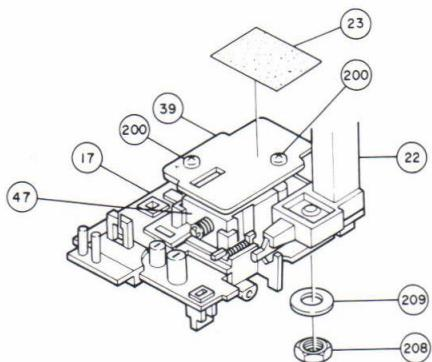

Fig. 7
(D) Removal of Tonearm (22) (Figure 7)
1. Remove the Sheet (23) on the Sensor PWB Ass'y (39) secured to the Bracket Ass'y (17).
2. Use a soldering iron to detach the lead wire coming from the Tonearm (22).
3. Remove the two Screws (200) securing the Sensor PWB Ass'y (39).
4. Remove the solder from the Solenoid Coil (47) terminal.
5. Remove the Sensor PWB Ass'y (39).
6. Remove the Hexagonal Nut (208) and Washer (209), then remove the Tonearm (22).